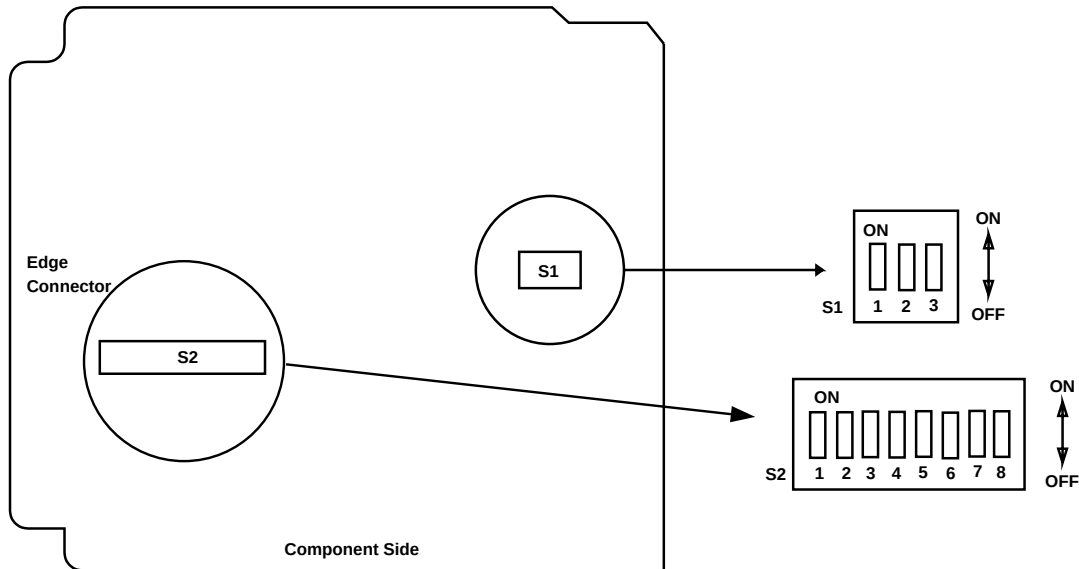

Figure 1. SYSCtl Option Settings
3. Remove and inspect circuit pack being replaced for proper option switch settings. Set option switches on the replacement **BBG8/BBG8B SYSCTL** the same as the original. See Figure 1.
5. Set all **SYSCTL** switch **S1** sections **S1-1**, **S1-2**, and **S1-3** to **OFF**, to set the product (shelf) type. See Figure 1.